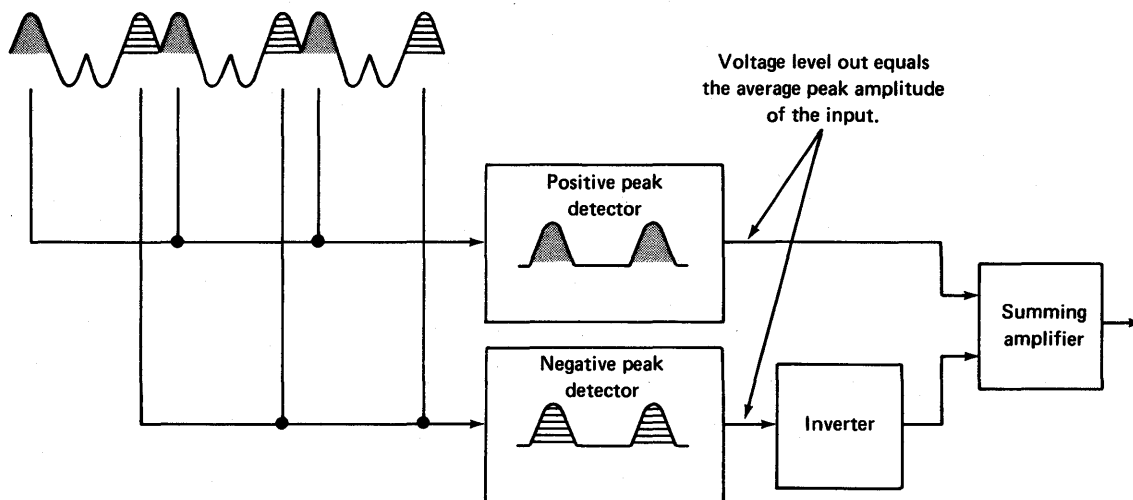

Figure 54. Comparator network
23. To detect and generate track pulses, the SMD uses a comparator network that separates and compares the amplitude of the positive peaks of both the positive and negative dibit waveforms. Figure 54 shows the comparator network. Note that all the heavily shaded peaks are the positive peaks of the positive dibits.
In figure 54, the output from the negative peak detector is inverted prior to being summed with the output of the positive peak detector.
With the dibit waveshape of equal amplitude, as shown in figure 54, the output of the summing amplifier is _____ volts, since the output of the negative peak detector is inverted before being summed with the output of the positive peak detector.